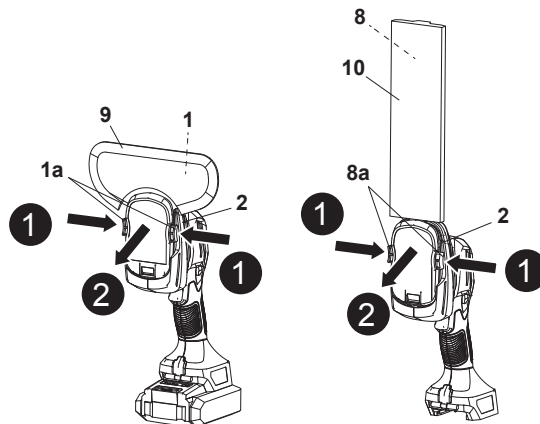

Fig. 1
1. Attach the grass shear blade cover (9) onto the grass shear blade (1); Attach the hedge trimmer blade cover (10) onto the hedge trimmer blade (8).
2. Remove the battery pack (11) from the battery docking port (6) if the battery pack (11) is already attached.
3. Press both release buttons (1a / 8a) and hold them in position (Fig. 1, step 1), then carefully remove the blade (1 / 8) from the motor unit (2) (Fig. 1, step 2).